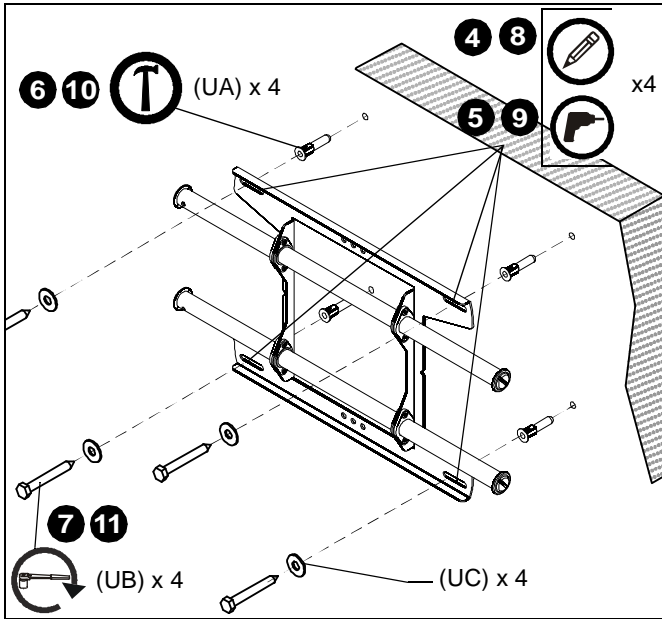

Figure 4
- Using a level, mark the wall through both upper mounting slots. (See Figure 4)
6. Install an anchor (UA) into each pilot hole using a hammer.
7. Use two 5/16 x 2-1/2" lag bolts (UB) and two 5/16" flat washers (UC) to attach top of mount to anchors in wall.
8. Mark the attachment points for the lower mounting slots. (See Figure 4)
9. Drill one pilot hole at each marking for lower mounting holes. (See Figure 4)
10. Install an anchor (UA) into each pilot hole using a hammer.
11. Use two 5/16 x 2-1/2" lag bolts (UB) and two 5/16" flat washers (UC) to attach the mount to the wall through the lower mounting holes. (See Figure 4)